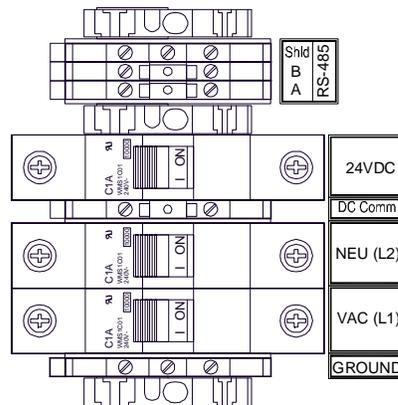

Figure 41 AC/DC Inputs
2. Connect 110/220VAC input wiring to the terminals labeled “ACV (L1)”, “Neutral (L2)”, and “Ground” (Figure 41). The power supply is capable of handling AC inputs from 100-240VAC 50-60Hz without degradation.